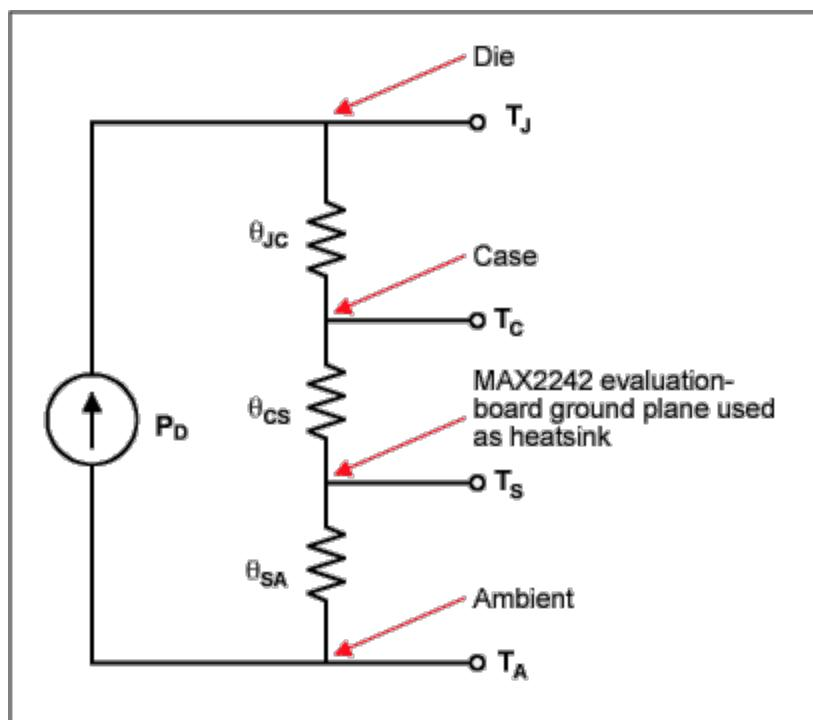

Figure 8. Electrical equivalent circuit of the thermal-conduction process.
**Figure 8** can be seen as an analogy showing the electrical equivalent circuit of the thermal-conduction process. Power dissipation corresponds to current, temperature difference corresponds to voltage difference, and thermal resistance corresponds to electrical resistance.